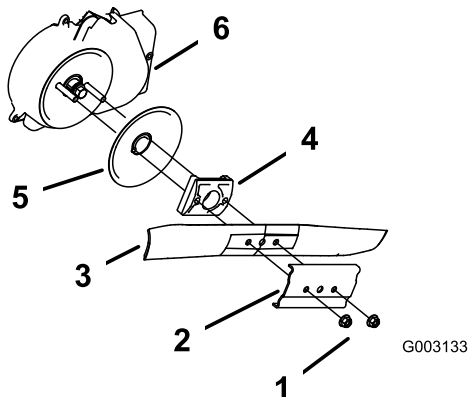

Figure 24
3. Remove the 2 blade nuts and the stiffener (Figure 24).
4. Remove the blade (Figure 24).
5. Install the new blade (Figure 24).